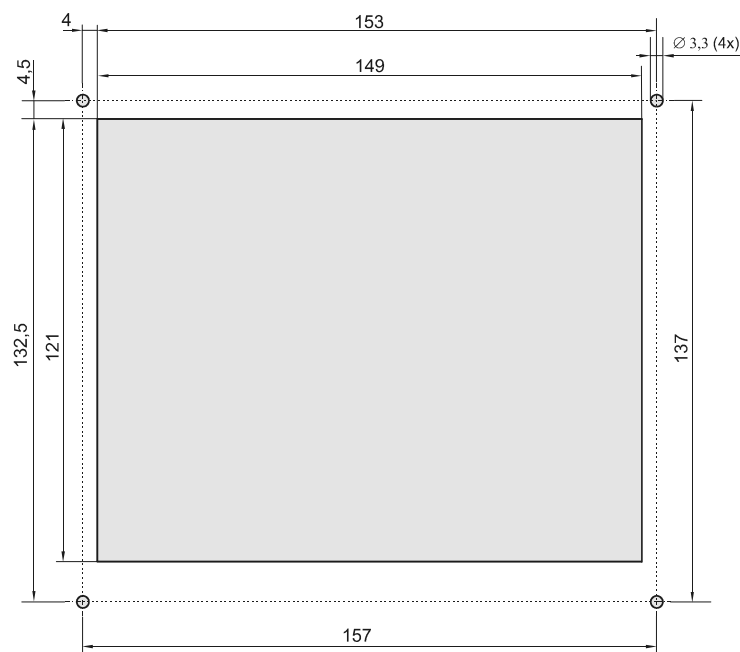

Fig. 2: Aperture and drilling template of LCD 19 for front panel
- Create an aperture and drilling template for the front panel, see fig. 2, page 12.